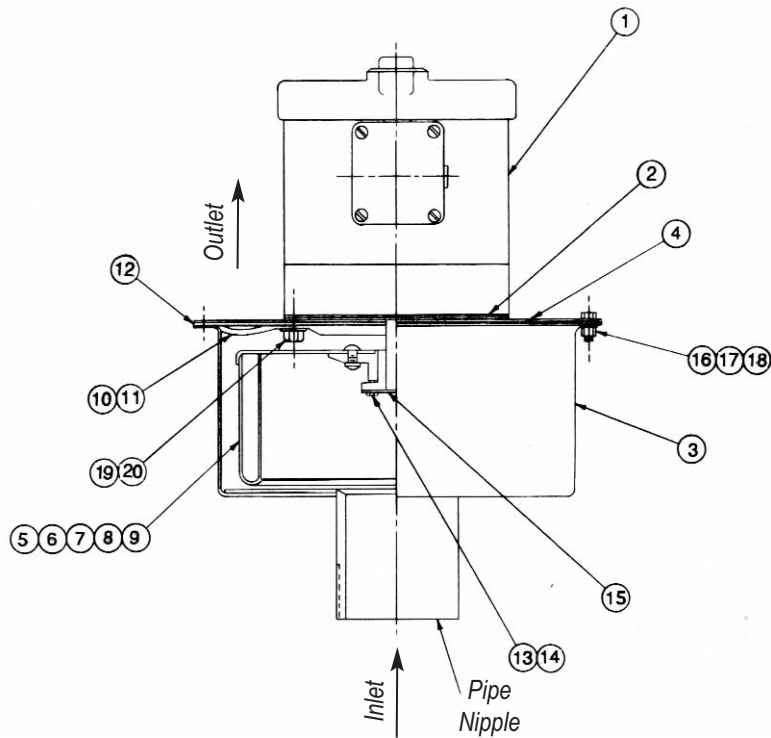

Figure 6. Size A-1
6.3 Cleaning Procedure - Size A-1 (Figure 6)
6.5 Motor Replacement - Size A-1 (Figure 6)